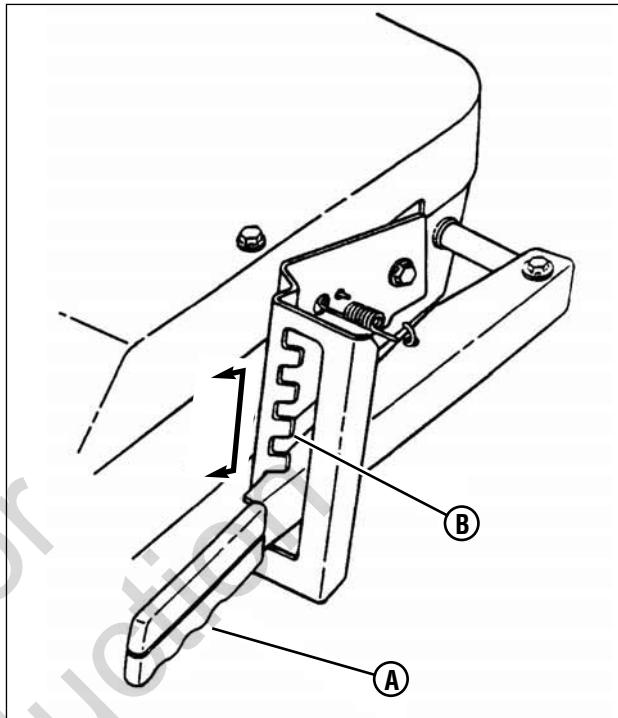

Figure 18: Cutting height adjustment
1. Adjust the cutting height by raising or lowering the deck lift lever (**A**, **Figure 18**) into the desired height of cut notch (**B**).